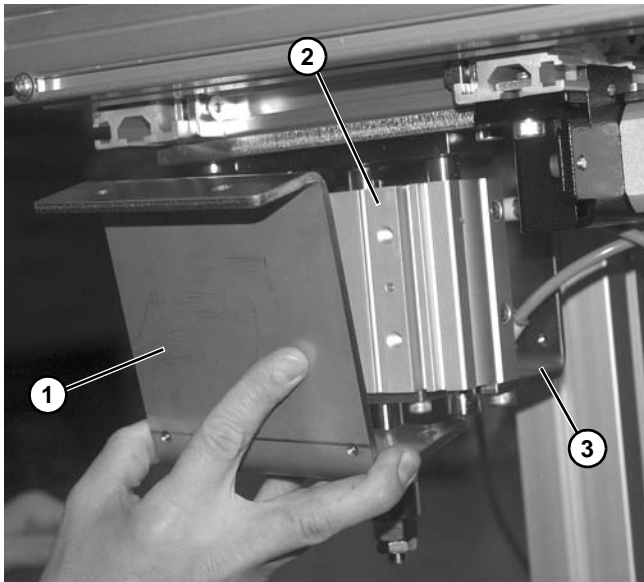

Figure 36
5. Remove bracket (**Figure 36, item 1**) from around lift cylinder (**Figure 36, item 2**).
6. Repeat to remove bracket (**Figure 36, item 3**) on opposite side of lift cylinder.